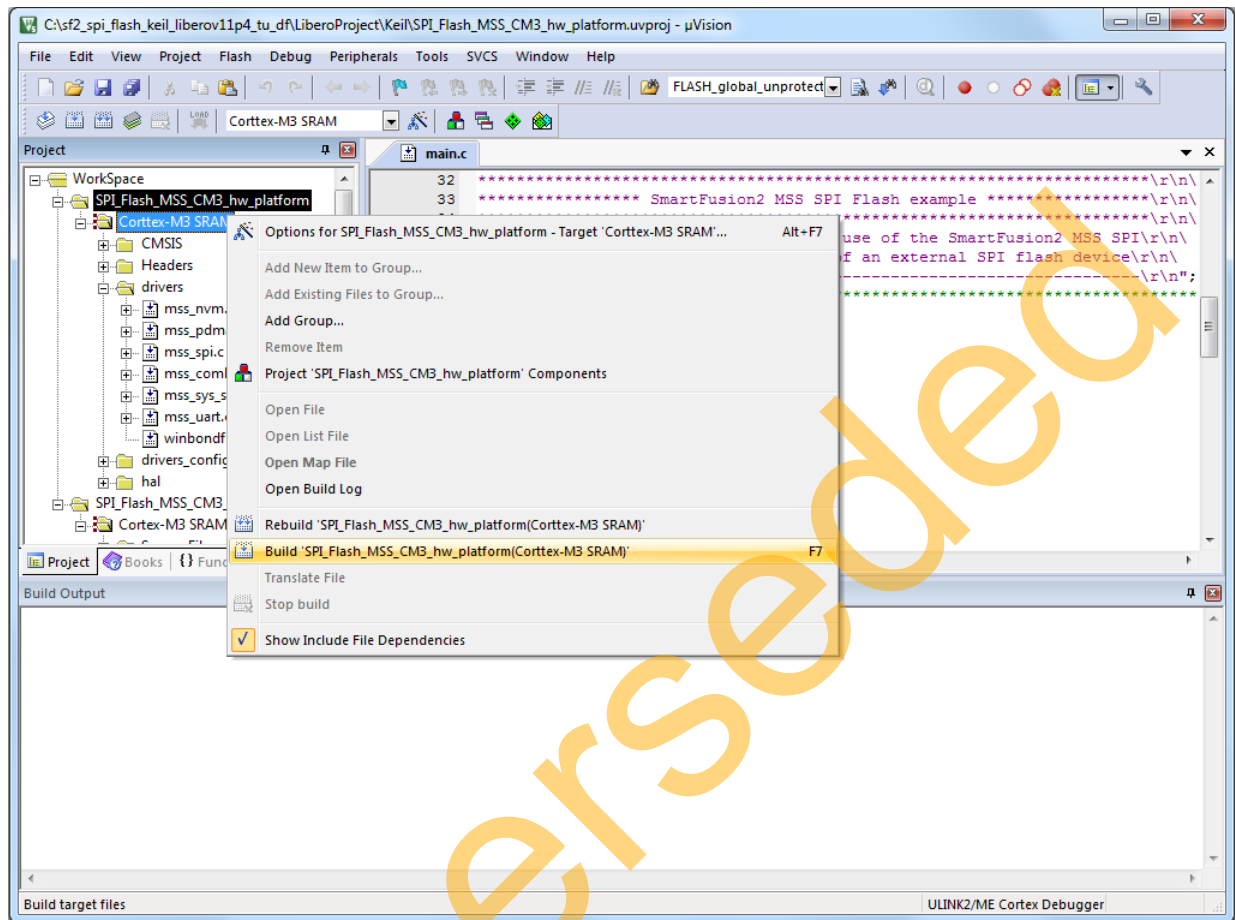

Figure 26 • Build HW Platform Window
8. Right-click **Cortex-M3 SRAM** under **SPI_Flash_MSS_CM3_hw_platform** and select **Build SPI_Flash_MSS_CM3_hw_platform (Cortex-M3 SRAM)** as shown in Figure 26.